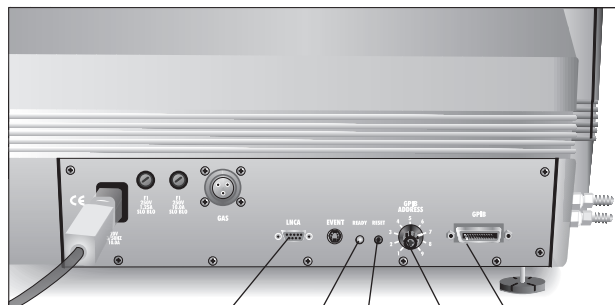

Figure 2.4
1. Locate the GPIB connector on the right rear of the DSC 2920 CE (see Figure 2.4).